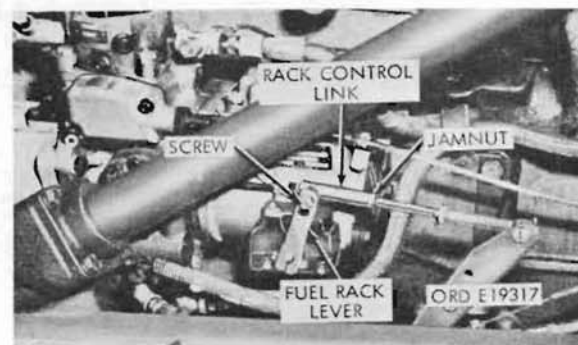

Figure 121. Accelerator linkage adjustment.
- (1) Disconnect the throttle control wire from the fuel supply unit (fig. 121).
c. Accelerator Linkage Adjustment. Disconnect the rack control link from the fuel rack lever (fig. 121), hold the accelerator pedal down on the stop. With the fuel rack lever completely forward, adjust the rack control linkage to hold the fuel rack in the forward or full open position.